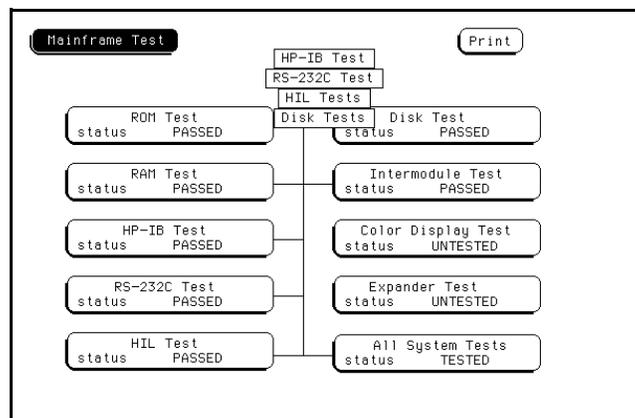

Figure 6-8. All System Test
3. Touch the **All System Tests** field. The instrument performs all the tests that are listed on the screen except the Color Display Test and the Expander Test. See figure 6-8.